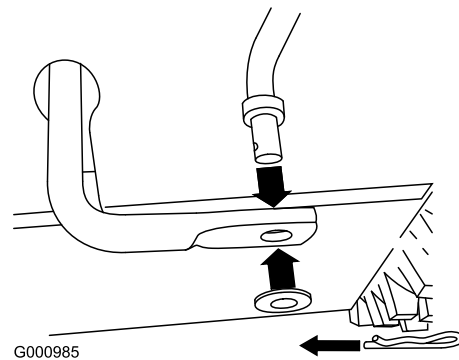

Figure 11
1. Remove the hairpin cotter and washer from the lower end of the speed-control rod and insert the lower end of the rod into the lower link arm so that the bent end of the speed-control rod faces rearward (Figure 11).